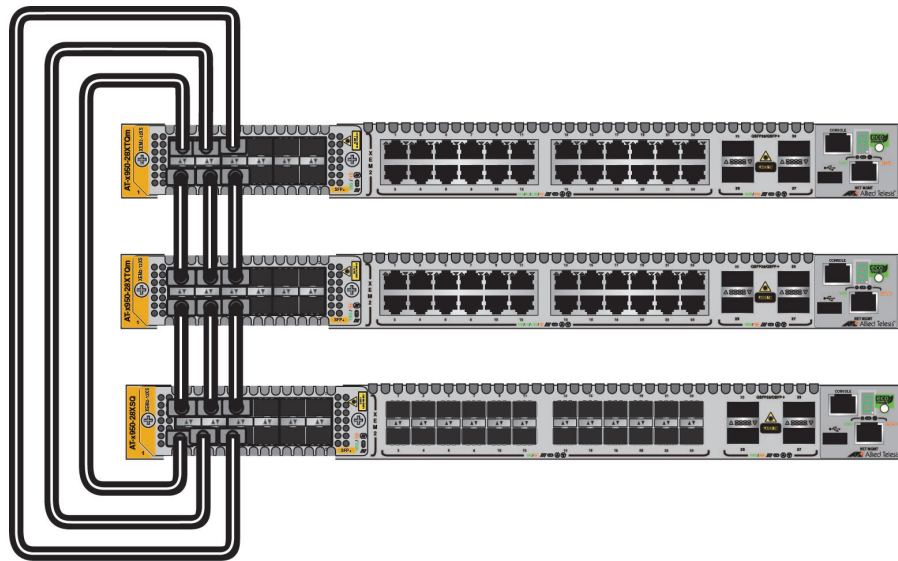

Figure 36. Example Trunk Using XEM2-12XS Line Cards
- Figure 36 is an example of a stack of three switches with a trunk from ports on XEM2-12XS Line Cards.